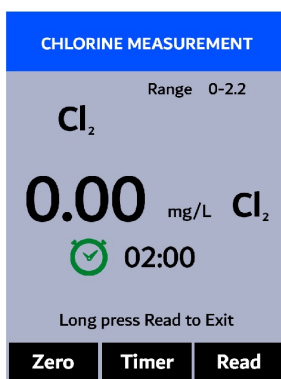
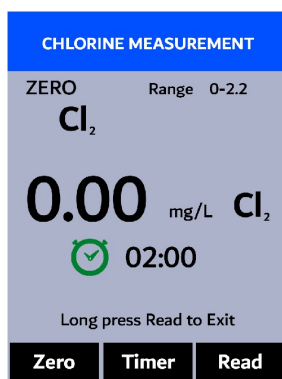

Figure 33.
Figure 34.
3. Press **OK** to launch the **CHLORINE MEASUREMENT** screen (Figure 33).
4. Rinse the main module sample cell three times with deionized (DI) water. Fill the sample cell with DI water.
5. Press **Zero** ( **<** ). **ZERO** will appear on the top-left corner of the display (Figure 34).